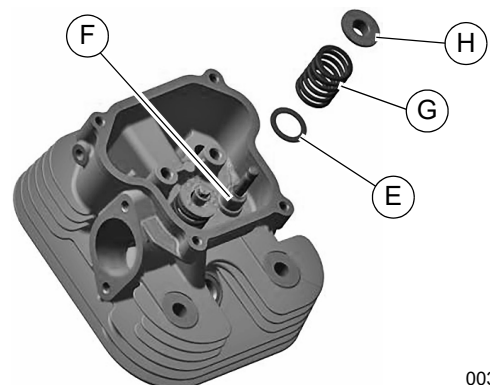

Figure 14-39. Install Valve Spring Assembly
3. See Figure 14-39. Place valve spring lower washer (E) over guide (F), then install valve spring (G) and upper collar (H). Verify washer is fully seated on cast surface of cylinder head, with valve spring and upper collar fully seated and aligned atop washer.